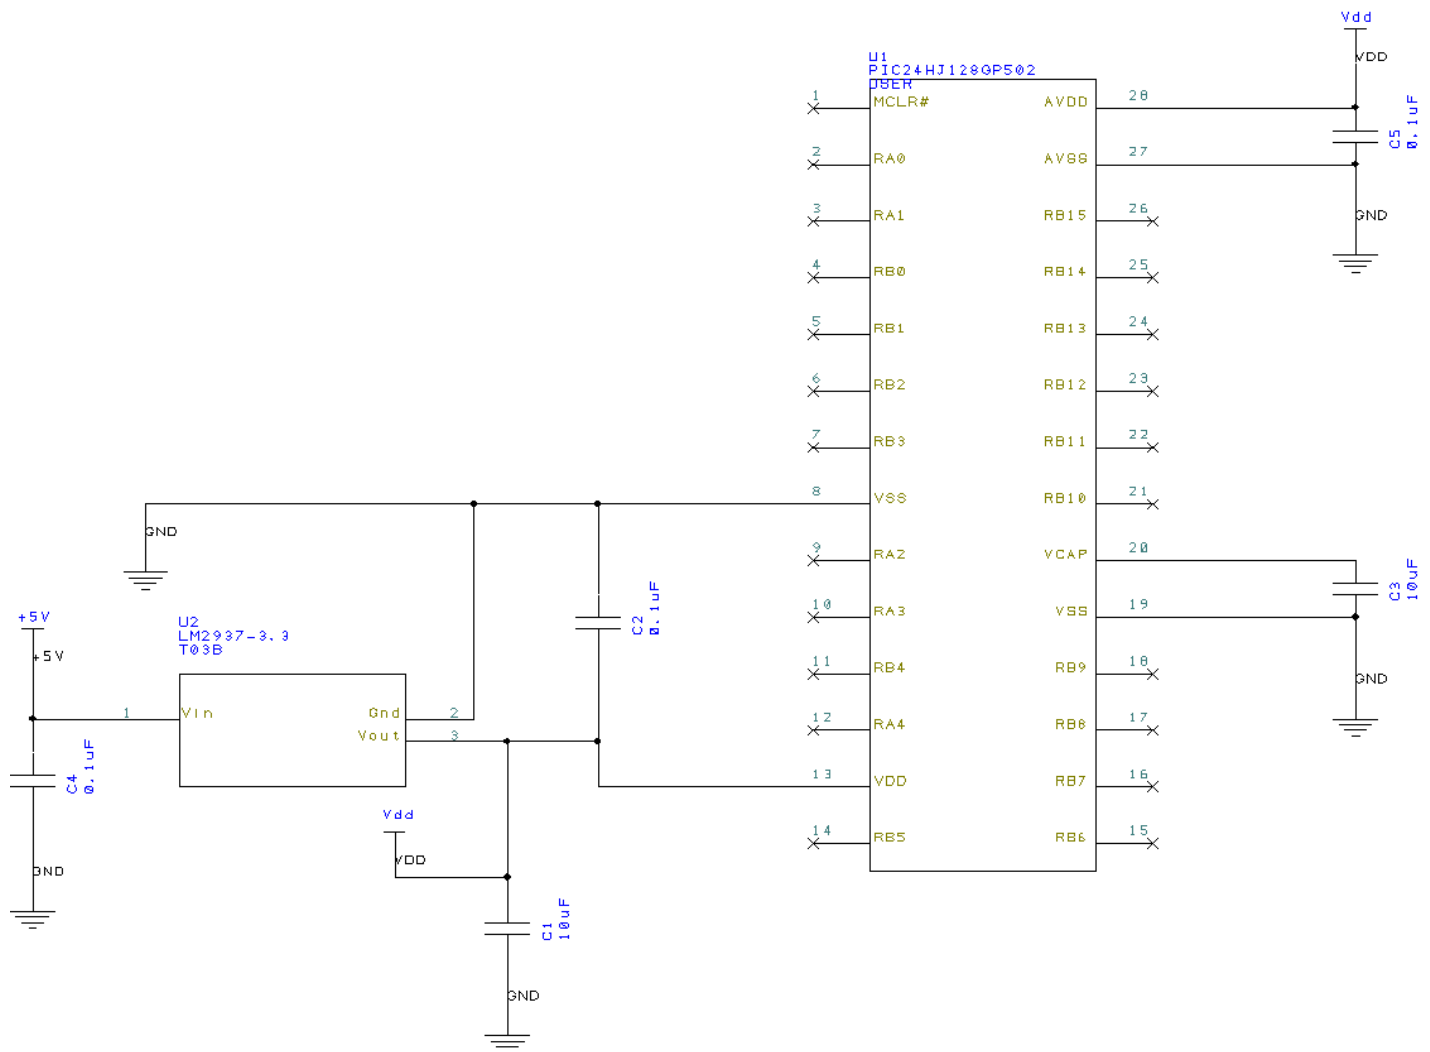

Figure 1. PIC24HJ128GP502 and Partial Power Circuitry
Using PCB Artist, create a basic power circuit for a PIC24 system. Your schematic should closely resemble the schematic shown in Figure 1. The ECE383 component libraries available on the class website include the PIC24HJ128GP502 microprocessor and the LM2937-3.3 voltage regulator components. The *Vdd* and *GND* components are located in the *schema* library. The capacitor (C) components, labeled C1-C5, are available in the *discrete* library. You will use multiple instances of the capacitor (C) component in this design. Note carefully that the capacitors have differing values and these values should be displayed in your circuit. The values for individual capacitors may be changed by right clicking on the component, selecting *Properties->Values* and setting the "Value=..." entry to the appropriate value. The capacitor's value is displayed in the circuit diagram if the radio checkbox for the "Value=..." entry is checked.